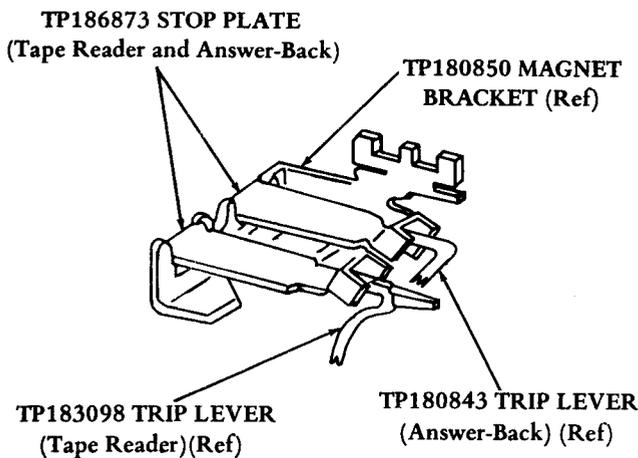

Figure 10 - Stop Plate for Tape Reader and Answer-Back Trip Levers of 3300 Series Coded Sets
(d) Stop plate for ASR sets without tape reader trip magnet option and for KSR and ASR sets without answer-back trip magnet option (Figure 10):
- (1) The TP186873 stop plate is intended for use in the transmitter distributor and answer-back trip magnet area.
- (2) The stop plate provides an optional feature for selection of three different voltage type magnets for transmitter distributor or answer-back trip operation. To select and add one of the three magnets for transmitter distributor or answer-back trip feature, their associated armature, armature extension, and hardware must also be added.
- (3) The function of the stop plate prevents the TP183098 clutch trip lever or the TP180843 answer-back trip lever from operating when either the transmitter distributor trip or answer-back magnets and associated armature parts are absent.
- (4) The TP186873 stop plate is installed in either the transmitter distributor trip lever magnet position or answer-back position or both (Figure 10).